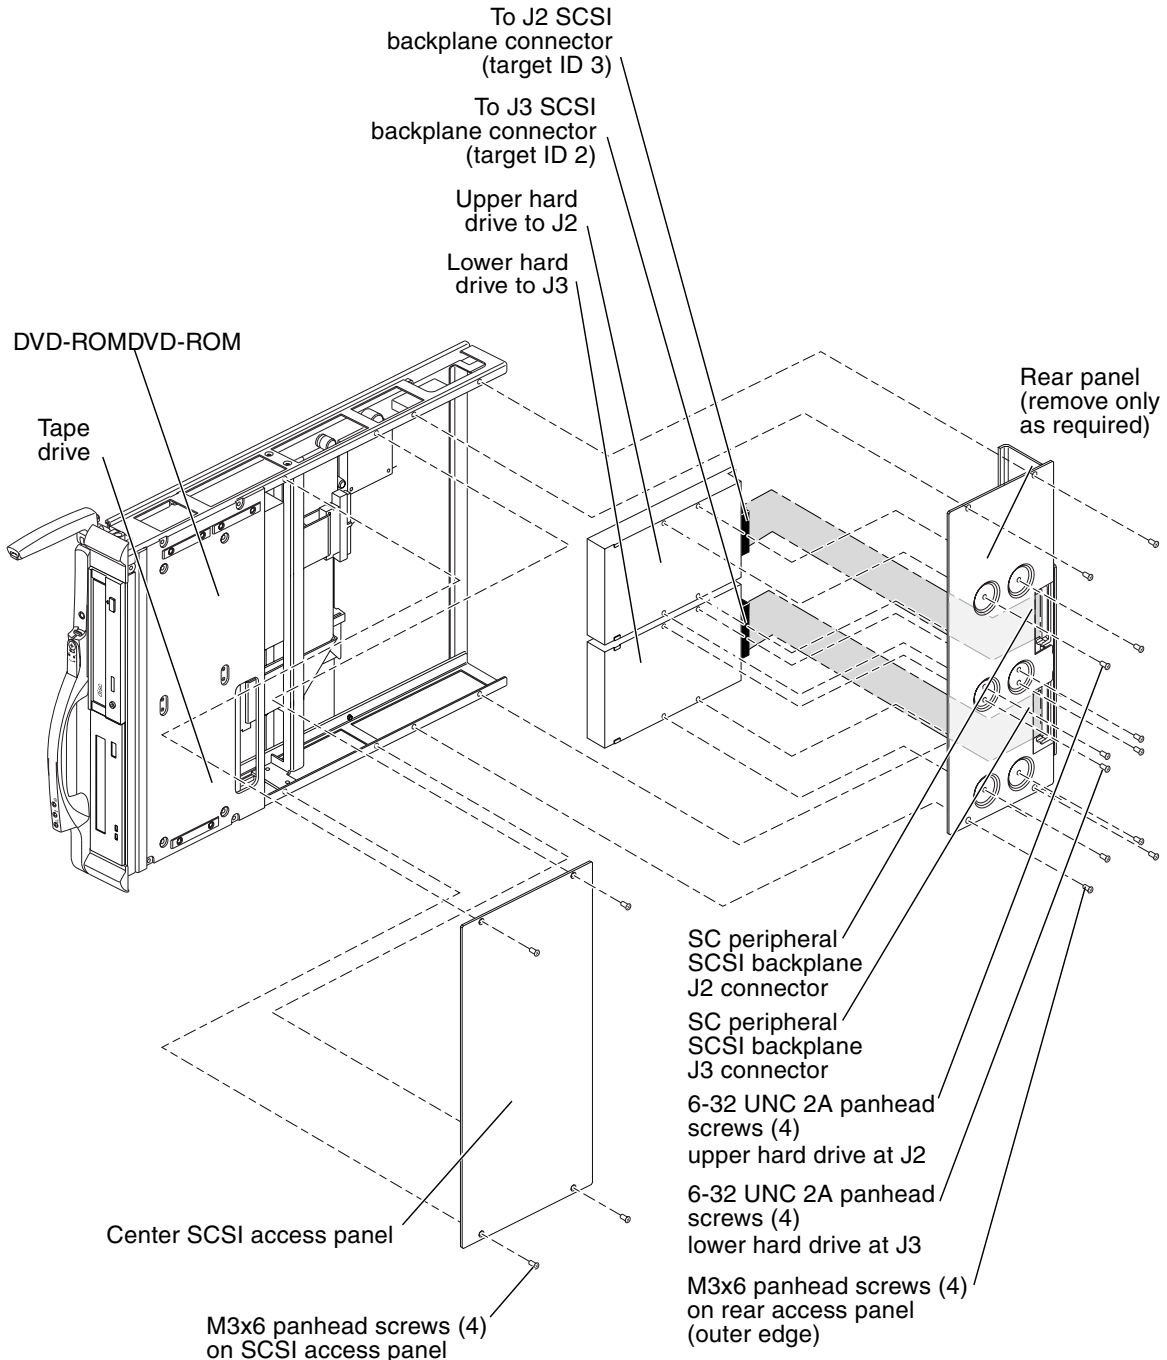

FIGURE 7-4 SC Peripheral Board Hard Drive Removal and Access Panel—Exploded
4. **At the center SCSI access panel, remove the four (4) M3x6 flathead screws and remove the panel (FIGURE 7-4).**